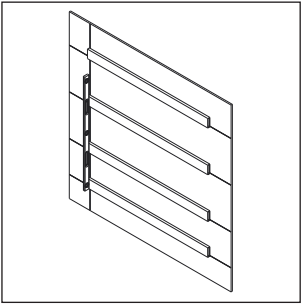

Figure 14: Ensure Plumb & Flat Tube Faces
10. Use a level to ensure the tube faces are plumb to the wall and flat to each other. Refer to **Figure 14**. If the tubes need Z-axis adjustment, add shims between the wall and the tube to adjust up to 1/2" maximum. Refer to **Figure 15**. Ensure the shims bear the full height of the tube as shown in **Figure 16**. Tighten down the hardware.